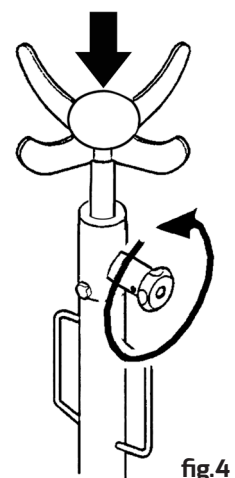

fig.4
**Slowly** turn the release valve knob anti-clockwise (see **fig. 4**) to **gently** lower saddle to the lowest height before attempting to transport the load.